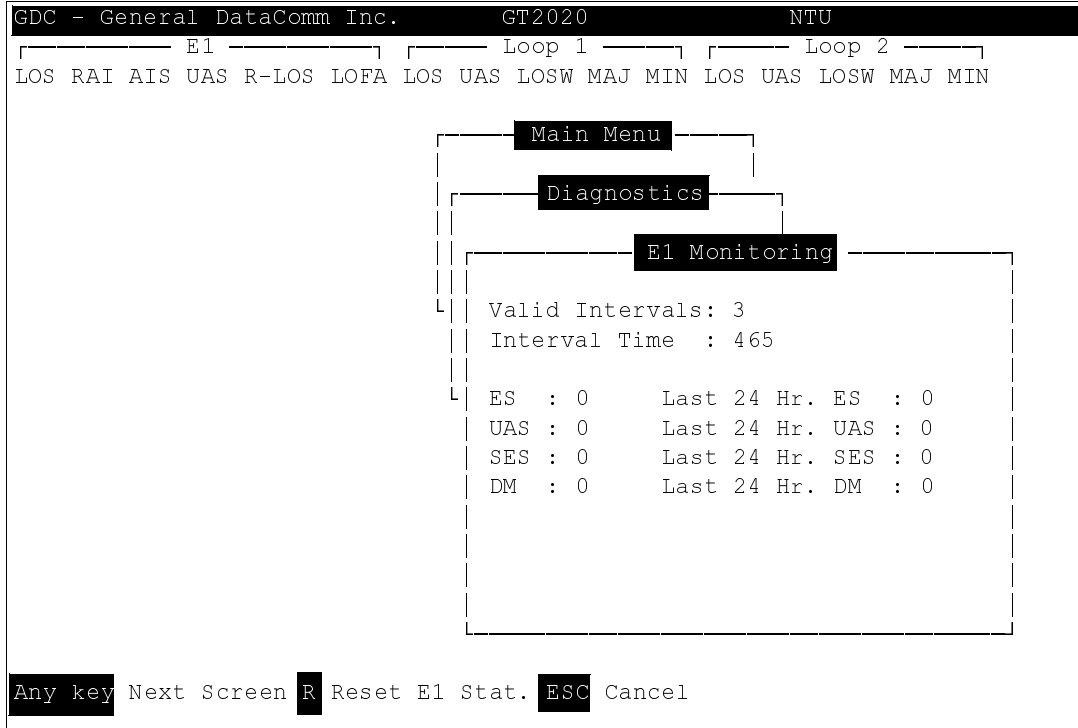

Figure 3-5 E1 Monitoring Screen
The E1 Monitoring screen, *Figure 3-5*, displays 24-hour performance statistics collected on the E1 trunk. To display the E1 Monitoring screen, select item 1 on the diagnostic menu.